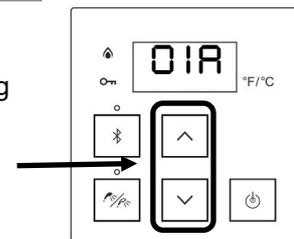

Figure 59
3. Press the “A” button for 1 second. The controller displays **01A** or **01b** (Figure 59).